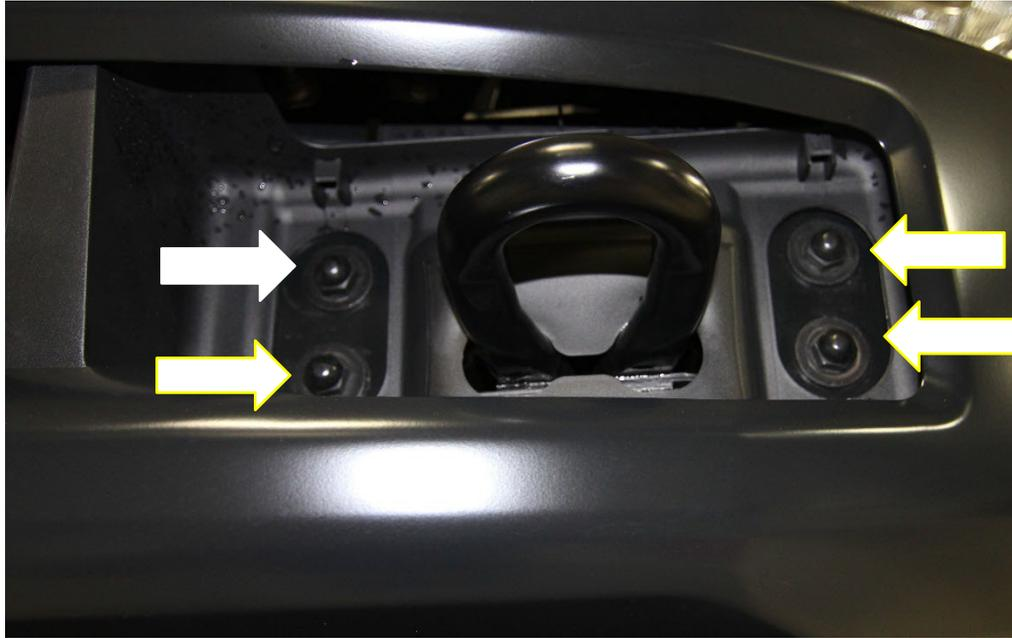

Figure 1
1. Use a body pry tool to remove the plastic covers around the tow hooks to access the bolts behind them. Use an 18mm socket to remove the four (4) bolts on each side of the bumper. (Figure1)